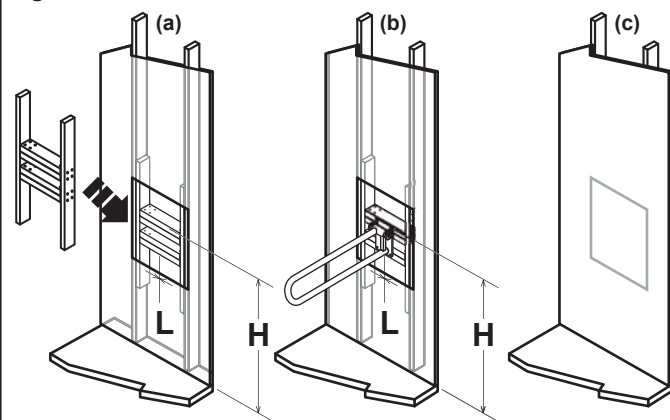

Figure 4.
The P.T.Rail™ must be secured with fasteners appropriate to the structural material of the wall. Each fastener must have a retention force rating of at least 330lbs/150kg (see **Figure 4** on page 2 for more information). Inspect, or have inspected (and tighten if necessary) the screws on a monthly basis.
7. Install P.T.Rail™ in the location recorded in step 1. Secure with four fasteners as shown in **Figure 4**. See below for fastener recommendations.